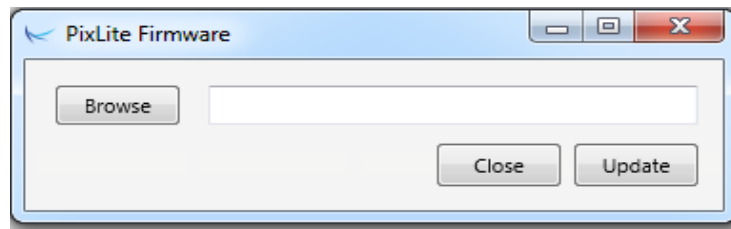

Figure 12
2. A configuration window will appear. Click on the “Misc” tab and then locate the “Upgrade Firmware” button and click on it. A “firmware update” window will appear (as shown in Figure 12).
4. Using the Assistant, click search in the main window and you should see the controller appear with “bootloader” in the firmware column. Double clicking on it will bring up the file browse window as shown in Figure 12.